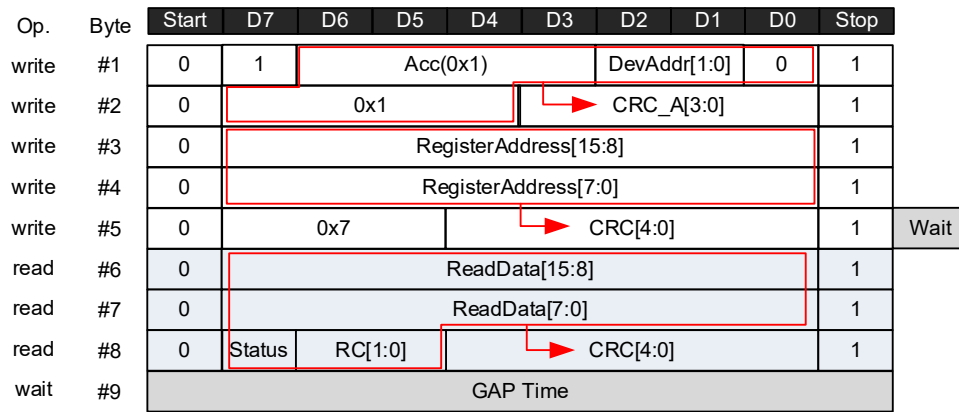

Figure 23. Register Read Mode Frame
- 16-bit register read (Figure 23)
See the read frame structure on Figure 23 where: